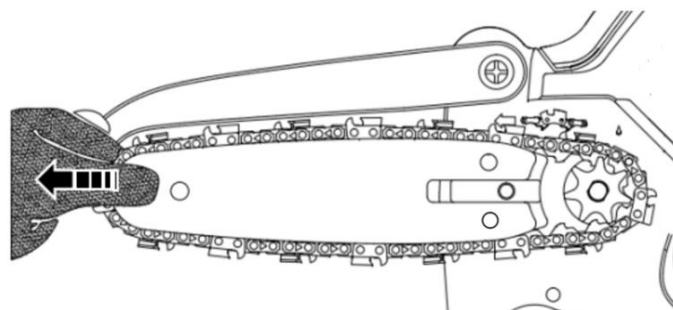

Fig. 7
- Turn the wingnut (4) by two turns anti-clockwise.
- Move the guide bar to the left or right until the drive links are half inserted into the groove at the underside of the guide bar. See Fig. 7.